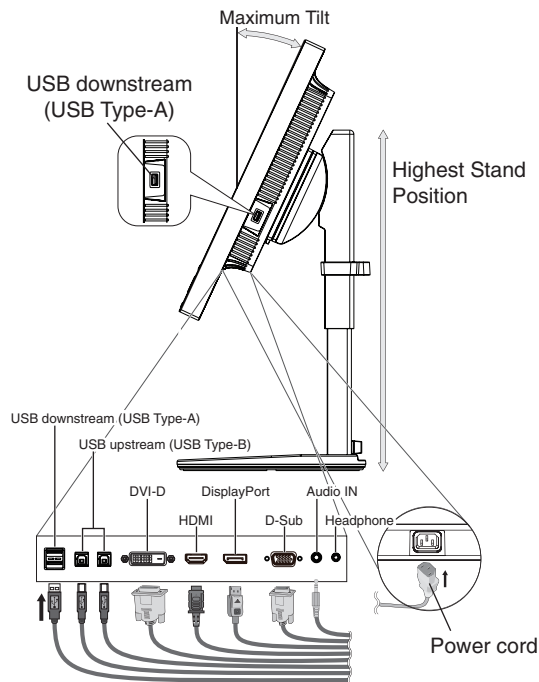
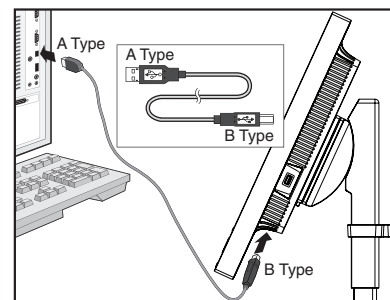

Figure C.1
Figure C.1a
- Connect all cables to the appropriate connectors (**Figure C.1**). When using a USB cable, connect the B type connector to the USB upstream port on the right rear side of the monitor and the A type connector to the downstream port on the computer (**Figure C.1a**). If using the cord from a USB device, plug into one of the downstream ports of the monitor.